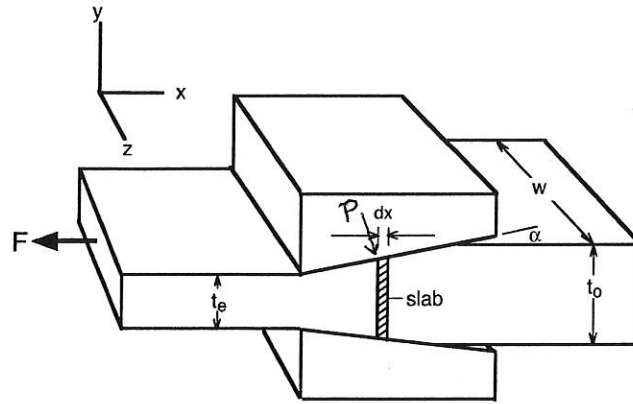

Figure 2
6. The schematic in Figure 2 illustrates sheet drawing process in plane strain condition through a pair of wedges. P is the pressure acting on metal sheet via die. Wedge angle is α .